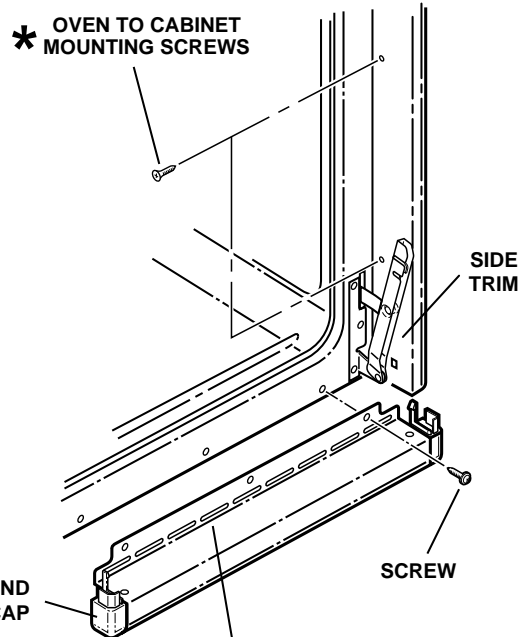

Fig. 5
- Attach lower end caps and trim to front frame with 3 screws provided. (See Fig. 5).
- Mount the oven with the screws supplied. (See Fig. 5)